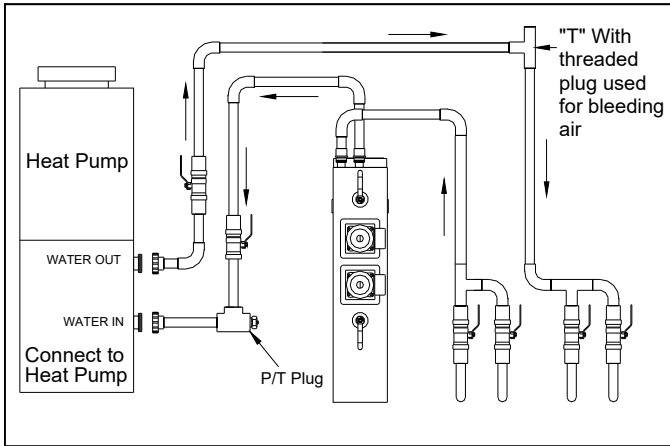

Fig. 3. Recommended Piping Schematic For Maximum Flexibility (Required With Internal Headers)
Fig. 3 illustrates a recommended piping schematic that can be utilized when an internal header is used and separate purging of the heat pump and the ground loop is not required.
Piping is similar for either schematic with the exception of **Fig. 3** showing all earth loops penetrating the mechanical area of the interior wall. Provide ball valves and P/T ports where indicated. Ball valves shall be the same as pipe size or greater. The flow center should be fastened to the wall with the bracket provided and all piping should be adequately supported. All piping shall be properly sized for the flow rate (GPM) required by the system. Reduce pipe size only at flow center and heat pump as necessary to make connections.
4. Close all loop header valves except one pair (**See Fig. 3**).